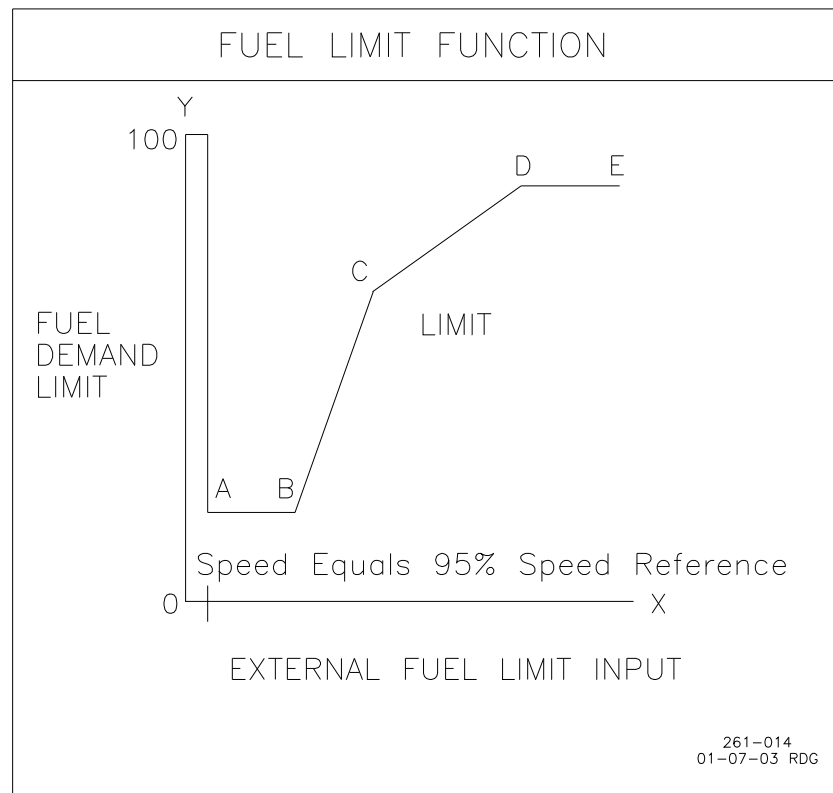

Figure 3-8. External Fuel Limit Curve
A five-point curve is constructed using the engine manufacturers recommended settings for EXT FUEL LMT versus Fuel Demand. Refer to Figure 3-8. The 'X' values are the Breakpoints and the 'Y' values are the Fuel Limit at the Breakpoints. All values between the designated breakpoints are interpolated.
2. **EXT LIMIT BRKPNT X** is the External Fuel Limiter value that designates that particular breakpoint (x-axis input in Figure 3-8).
3. **FUEL LIMIT @ BRKPNT X** is the percent fuel demand allowed when the External Fuel Limiter input is at that respective Breakpoint (y-axis output in Figure 3-8).